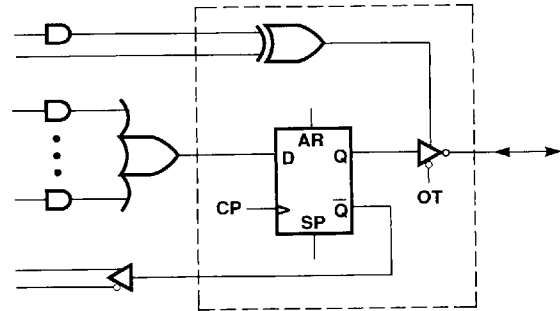

Figure 5. Buried register
The key architectural optimization to create a more efficient state machine out of a generic PLD structure is the buried registers. By offering registers which are directly fed back to the AND array without having to drive or use up outputs, the GA23SV8/GA23S8 sequencers enjoy increased performance as well as more effective I/O utilization. To increase testability, each buried register can be accessed, via a user-configurable observability product term (OT), through an associated output. Figure 5 shows the details of the buried register.